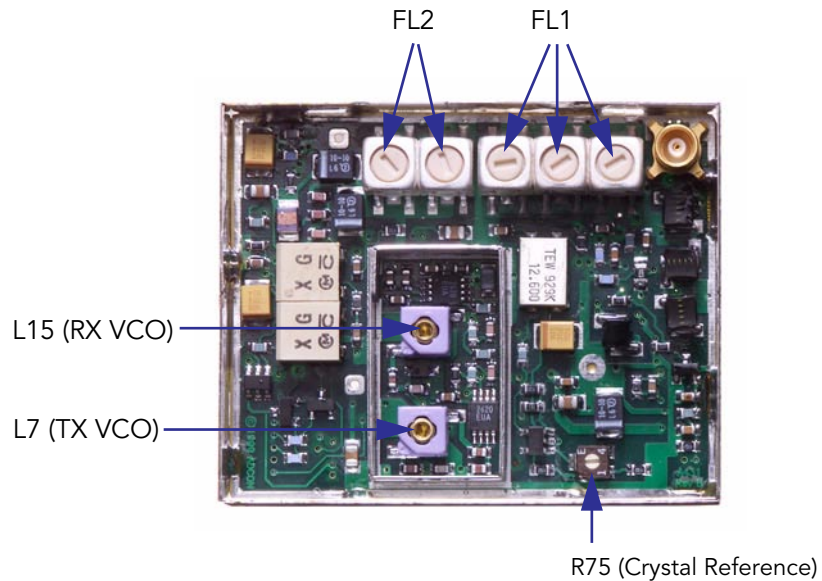
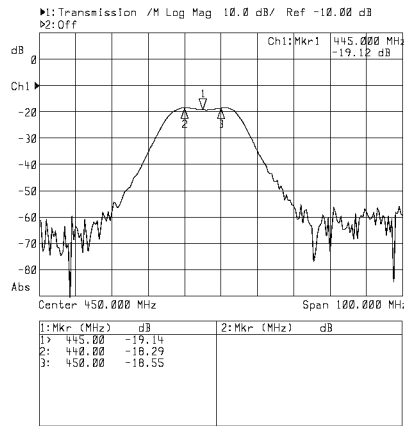

Figure 17. Location of the trimming elements.
Figure 18. Helical Filter + LNA's selectivity diagram.
The location of the trimming elements on the A431 Module is shown in Figure 17.
4. Adjust the FL1 and FL2 filters (see Figure 17) until you obtain a curve similar to the one shown in Figure 18 (depending on the band, the markers may be different); this is done by successively adjusting the five trimming screws located on the filters.
2. Adjust the coil L15 (see Figure 17) until the voltage shown on the digital voltmeter is 1400 mV, ± 50 mV (see also the note below).
4. Adjust the coil L7 (see Figure 17) until the voltage shown on the voltmeter is again 1400 mV, ± 50 mV.
2. Observe the indication shown by the Service Monitor: adjust R75 (see Figure 17) until the carrier frequency indicates 435000000 (Band 1), 445000000 (Band 2), 455000000 (Band 3), or 465000000 MHz (Band 4) \pm 200 Hz, respectively.
For item 3.a above, adjust R75 (see Figure 17). For item 3.b, issue the command **PWR** at the terminal and use the **D** (down) and **U** (up) keys until the required value is reached. Finally, for item 3.c, issue the command **BW** at the terminal and again use the **D** and **U** keys to reach the required value.